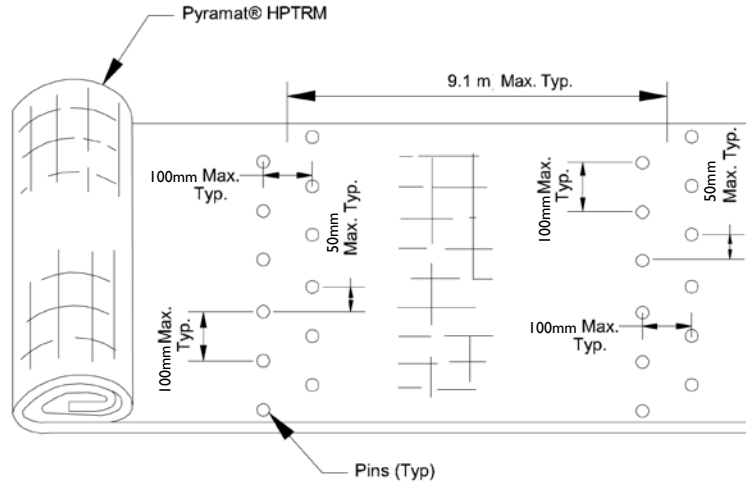

FIGURE 7: SIMULATED CHECK SLOT DETAIL
- For bank heights greater than 13.7m, install simulated check slots per Figure 7. This method includes placing two staggered rows of pins on 100mm centers at 9.1m intervals (see Figure 7) or across the midpoint of the bank height for bank heights less than 18.2m.